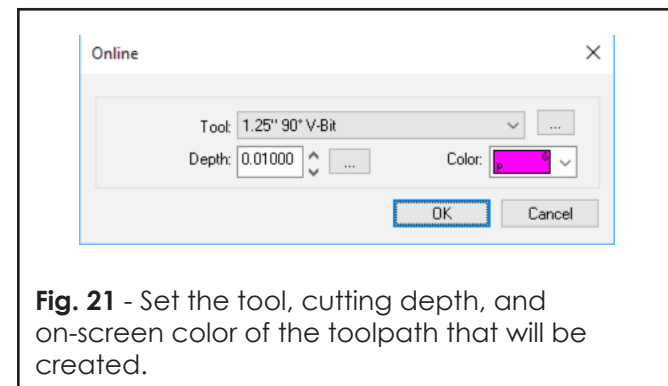

Fig. 21 - Set the tool, cutting depth, and on-screen color of the toolpath that will be created.
33. The **Online** dialog will open (Fig. 21)